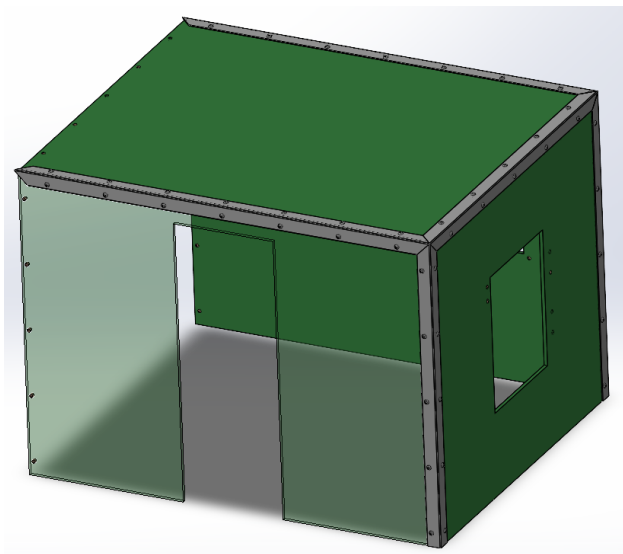

Fig. 10. Top acrylic installed onto the chamber assembly.
4. Screw the top acrylic to the chamber assembly, see Fig. 10.